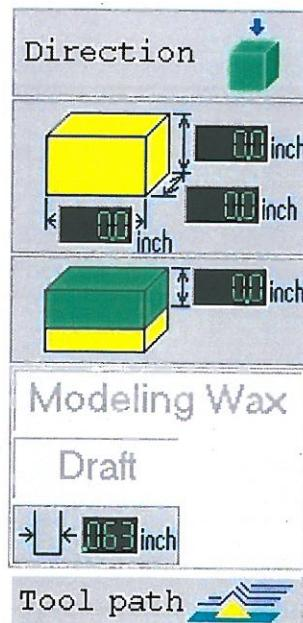

Figure 8: Settings Menu
9. Once the file is open, go through each item in the Settings Menu and verify that they are correct (Figure 8).